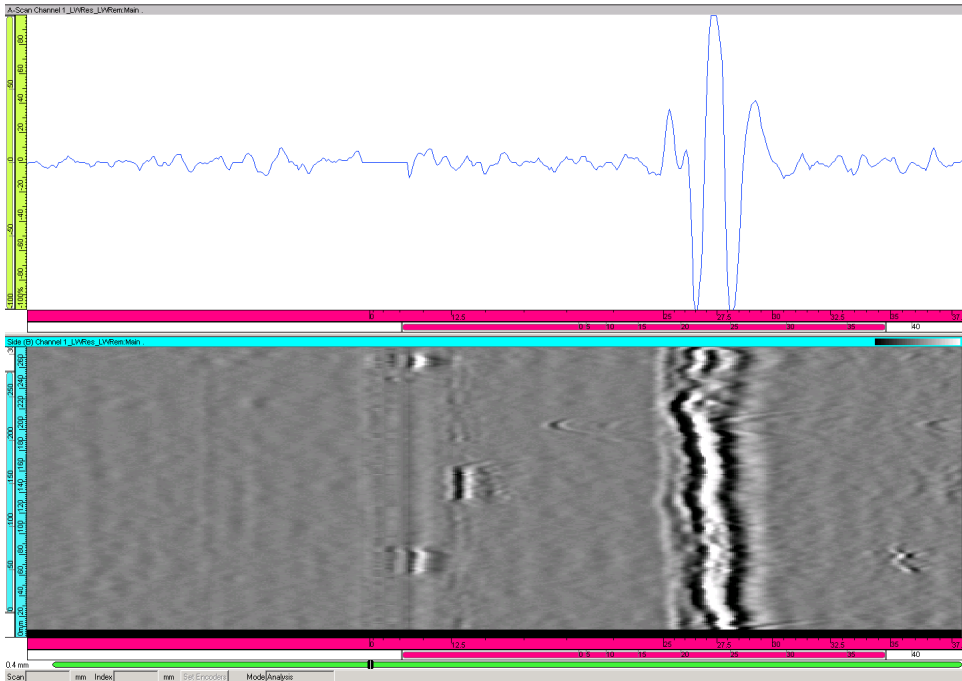

Figure 7-21 TOFD data after lateral wave removal
6. In the menu, select **View > Contents** and display the newly created LWR. The lateral wave is now removed (see Figure 7-21 on page 361).